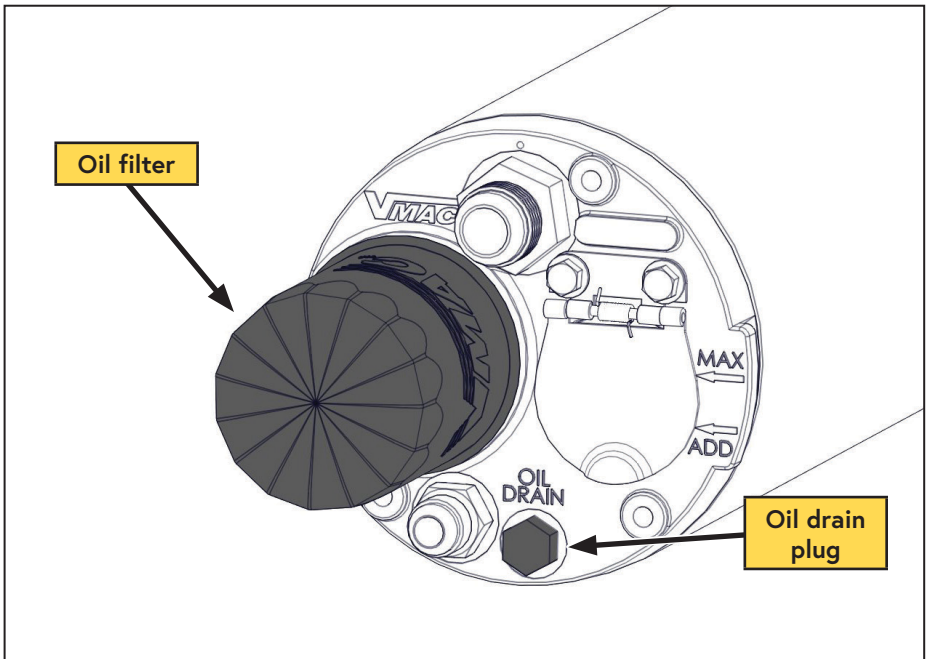

Figure 29 — Compressor oil filter
- ☐ Remove the oil drain plug and drain the oil into a container with a capacity of at least 5 L (1.32 USG) (Figure 29):
- ☐ Remove the oil filter (Figure 29).